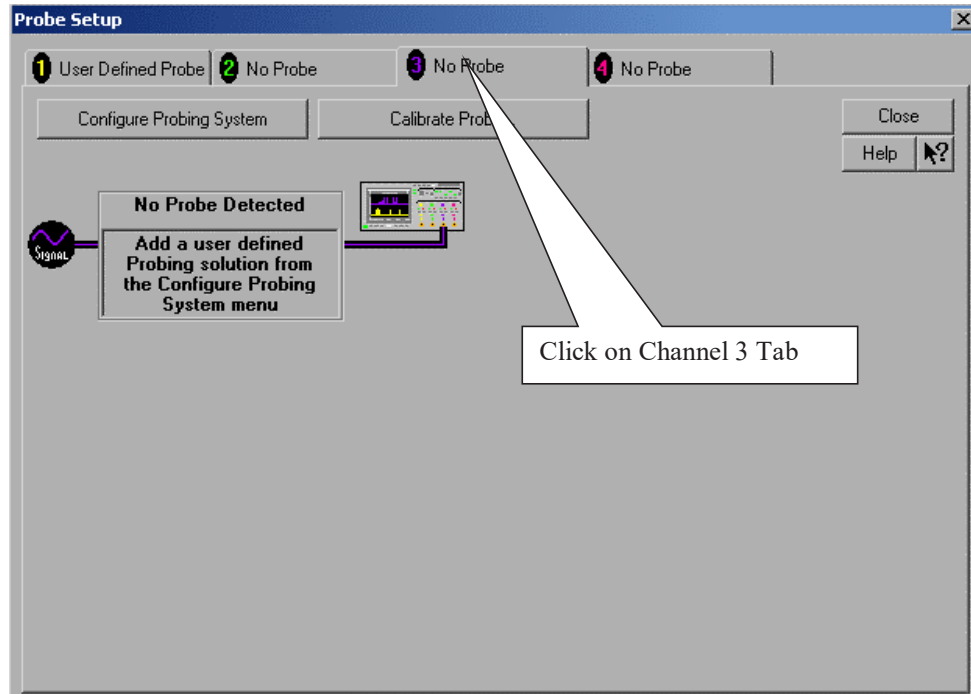

Figure 18 Calibration Window.
- 12 Referring to Figure 18 below, perform the following steps:
- 15 Click the Close button on the Probe Setup window (Figure 18) to close this window.